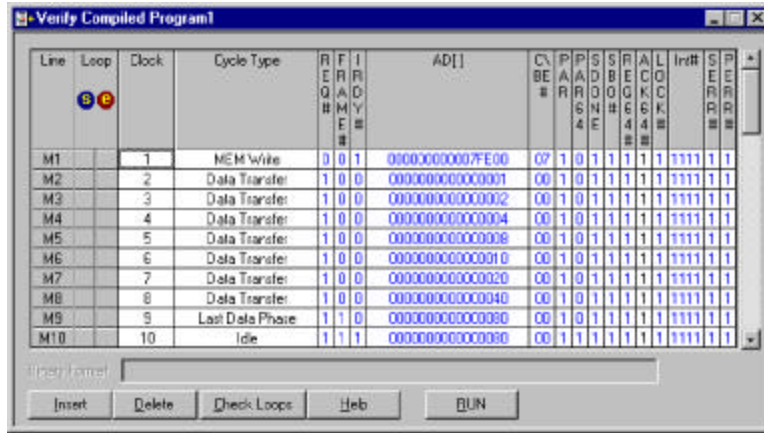

Figure 35 Write/Read Verify Compiled Program
- Click **Compile** to generate the executable code as shown in Figure 35.